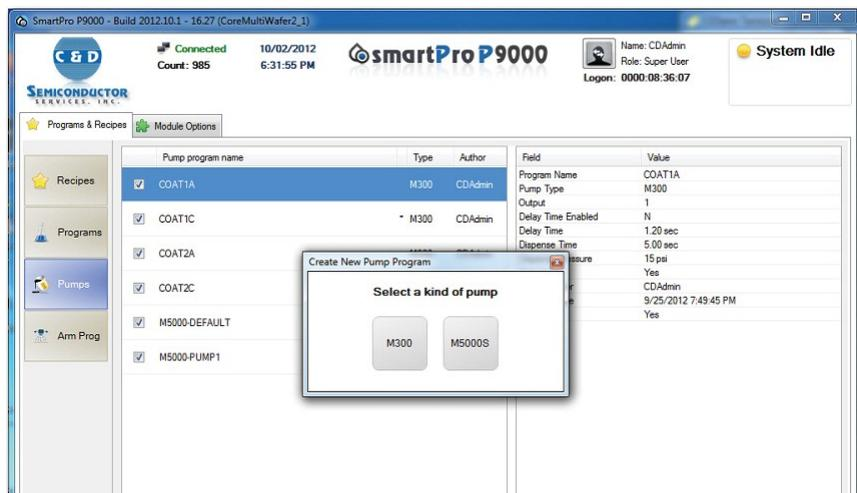

FIGURE 3-10: Creating a new pump program
3. On the Pumps page, click **New**. The Create New Pump Program dialog box opens. See Figure 3-10.